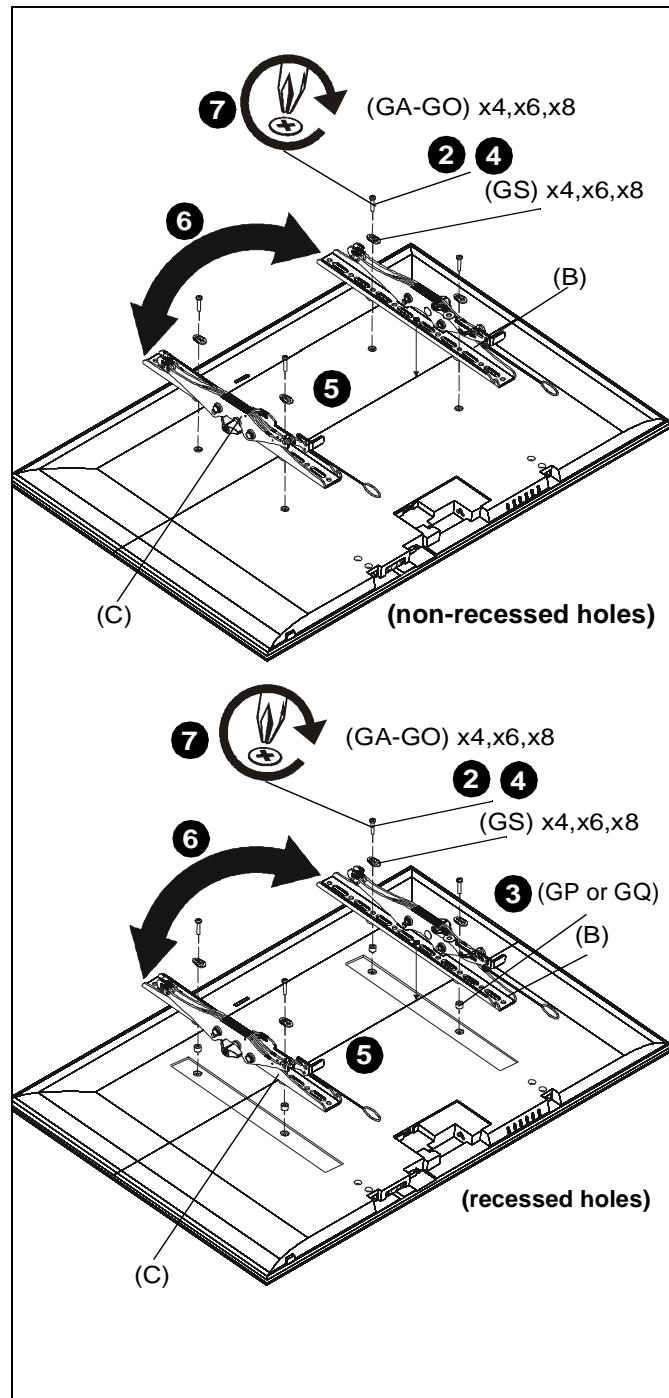

Figure 8
2. Select screw *diameter* by examining hardware (GA-GO) (8mm, 6mm, 5mm, or 4mm) and comparing with mounting holes on display. (See Figure 8)
3. Select spacers: (See Figure 8)
4. Select screw *length*: (See Figure 8)
- Using your hand, insert SHORTEST length screw of selected diameter (GA, GE, GI or GL) through bracket (B or C), universal washer (GS), selected spacer (GP or GQ, if required), into display mounting hole. Do NOT thread screw into hole at this time.
5. Place brackets (B and C) on display, ensuring: (See Figure 8)
7. Using Phillips screwdriver, carefully install selected screws through universal washers (GS), brackets (B and C), and spacers (GP or GQ, if required), into display. (See Figure 8)